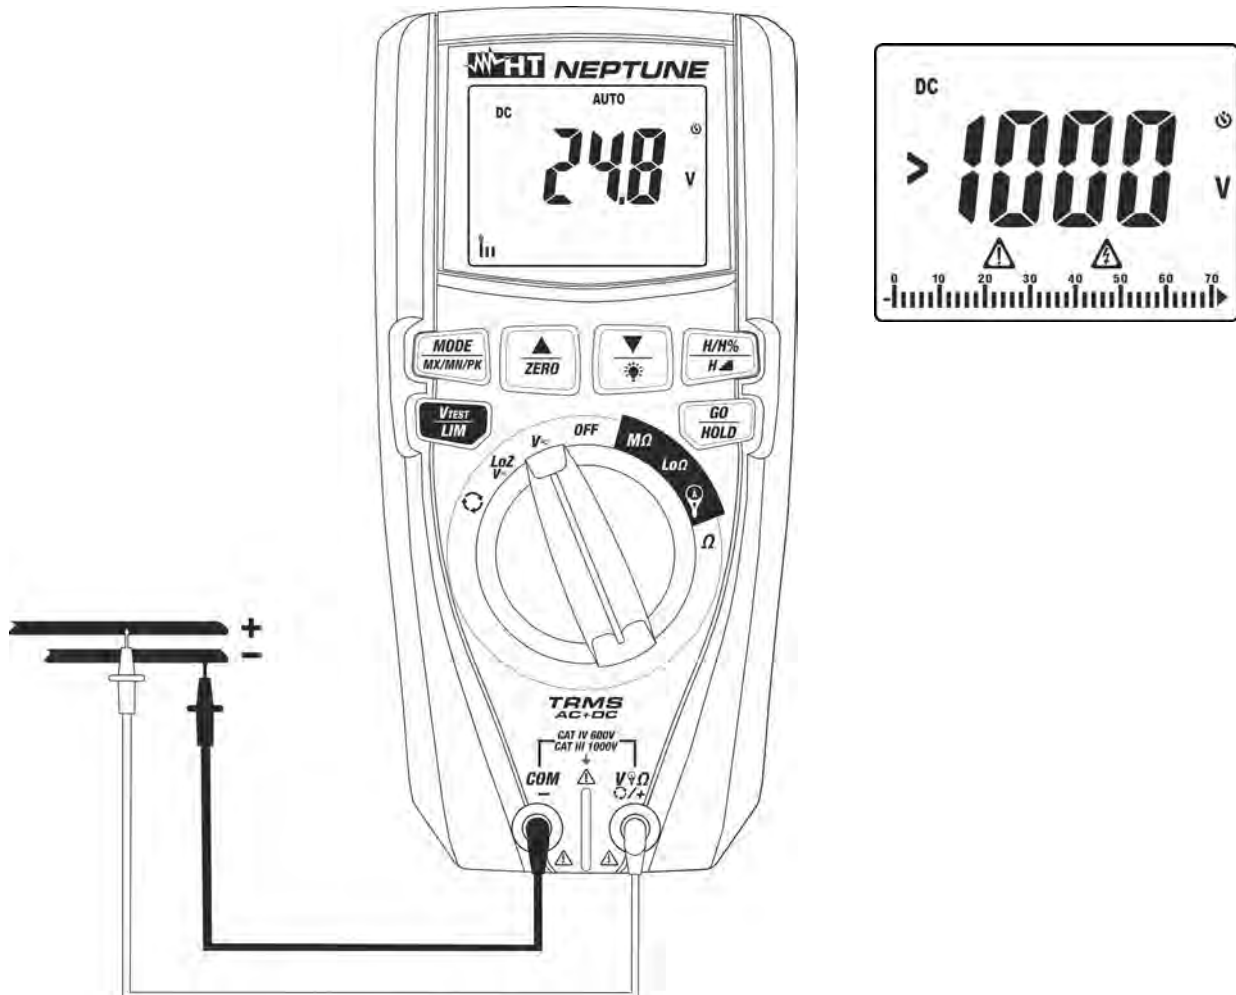
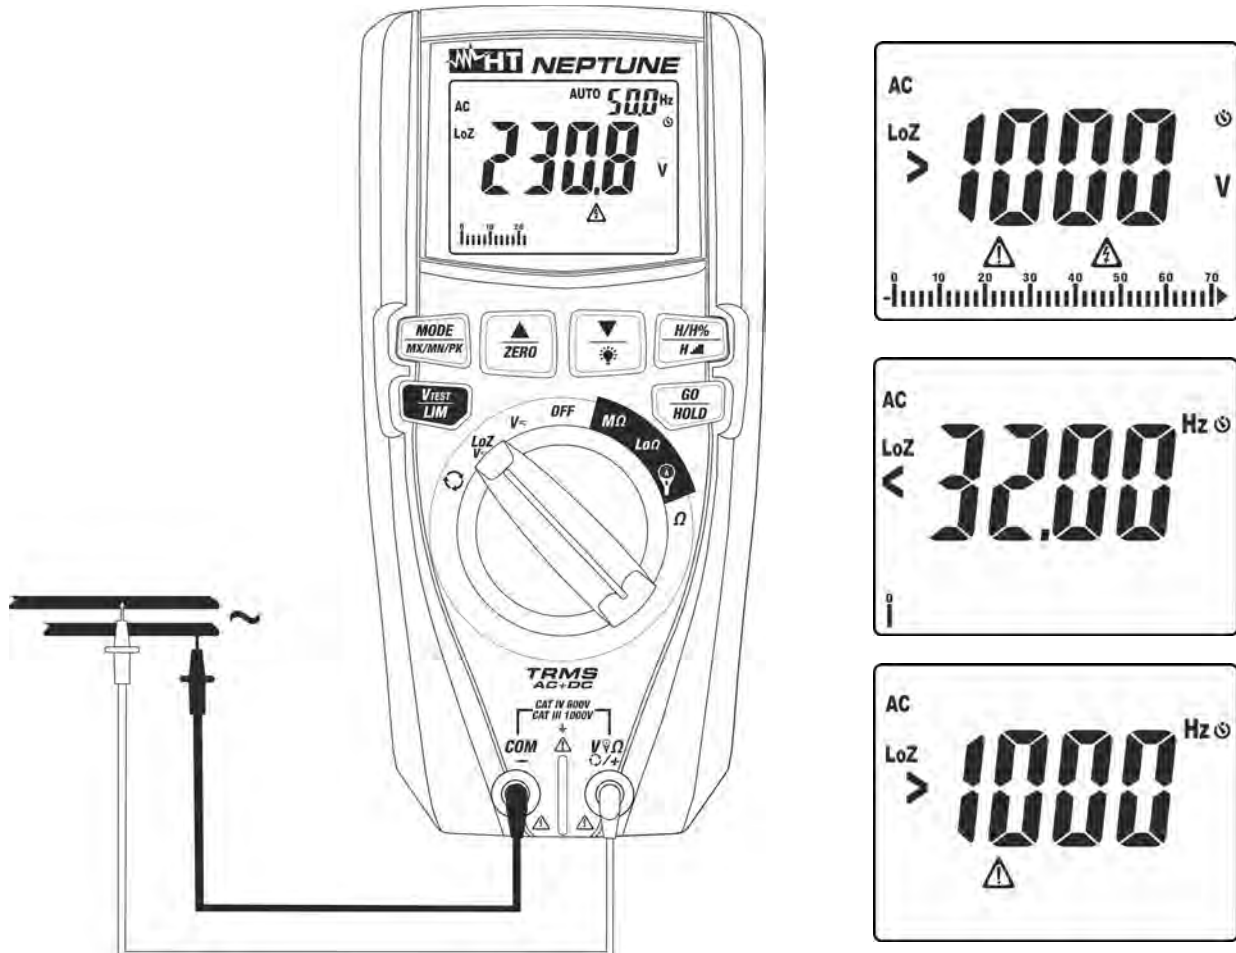

Fig. 6: Use of the instrument for DC voltage measurement
Fig. 8: Use of the instrument for AC/DC voltage measurement with LoZ function
3. Position the red lead and the black lead respectively in the spots with positive and negative potential of the circuit to be measured (see Fig. 6). The display shows the value of voltage.
4. If the display shows the message "**>1000V**" (see Fig. 6), the maximum measurable value has been reached.
5. When symbol "-" appears on the instrument's display, it means that voltage has the opposite direction with respect to the connection in Fig. 6.
4. Position the red lead and the black lead respectively in the positions of the circuit to be tested (see Fig. 8) for AC voltage measurement or in the positions with a positive or negative potential of the circuit to be tested (see Fig. 6) for DC voltage measurement. The display shows the value of voltage. On the top of the display on the right side, the value of voltage frequency is displayed. Press key **MODE/MXMNPK** to display the value of frequency with a higher resolution.
5. If the display shows the messages "**<32Hz**" or "**>1000Hz**" (see Fig. 8), the value of frequency is out of the measuring range **32Hz ÷ 1000Hz**.
6. When symbol "-" appears on the instrument's display, it means that voltage has the opposite direction with respect to the connection in Fig. 6